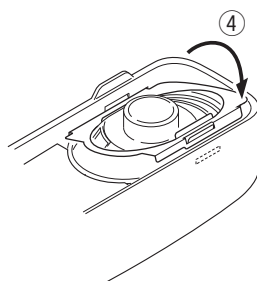

Fig. 8-3
1. Insert two tabs of the holder (J19-5485-02) into the hollows in the top of the panel. (①)
2. Push the two tabs of the holder in on the opposite side of those in step 1 above and fit them into the hollow in the bottom of the panel. (②)
3. Install the speaker holder onto the panel. (③)
6. Insert the hardware fixture (J21-8481-03) into the hollow of the panel as shown in Figure 8-3, then push two parts of the hardware fixture and fit it into the hollow of the top of the panel. (Fig. 8-3 ④)